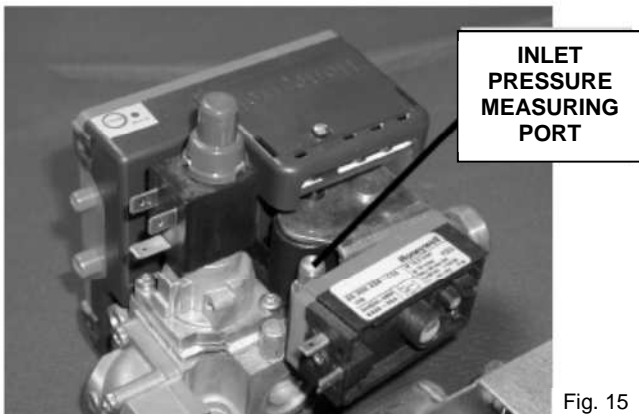

Fig. 15
- Place the tube of the "accurate" manometer on the Inlet pressure port (Figure 15) of the Gas Regulating Valve after having loosened the screw by one turn